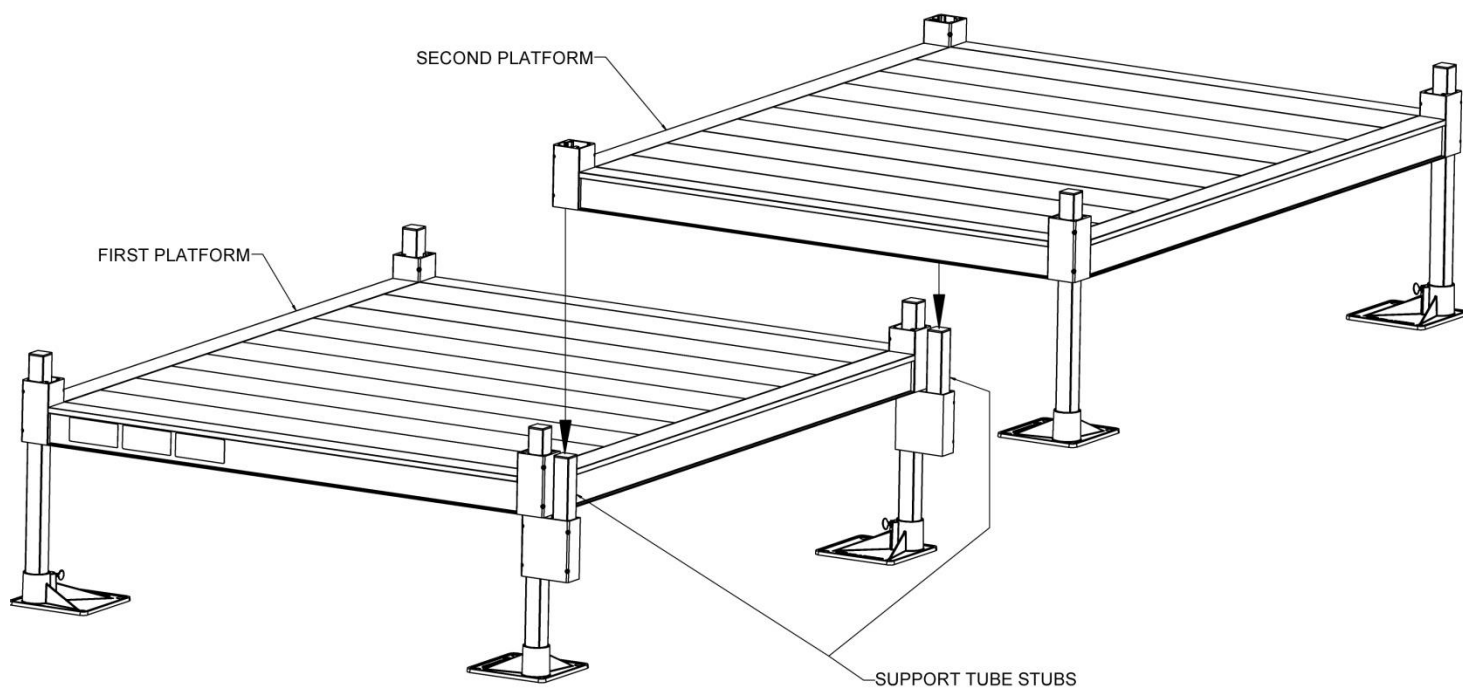

FIG. 2.6
- 2.3.5. Assemble the second platform as described in the previous section except only install support tubes, plugs and feet on the opposite side of where the platforms will connect (FIG. 2.6).